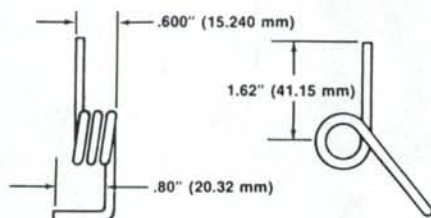

Fig. 196—Illustration showing detent spring dimensions.
Clean and inspect all parts and renew as necessary. Compare detent spring (10) to dimensions shown in Fig. 196. On tractors with transmission serial number prior to 10237494, equipped with key drive (see insert Fig. 195), check radial movement of park lock gear using a dial indicator.